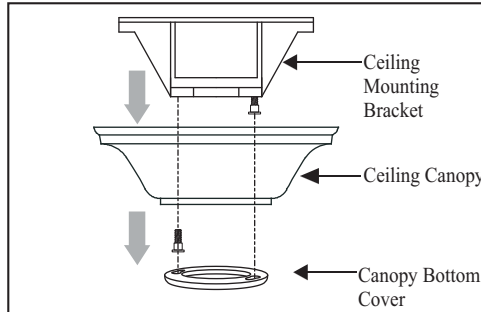

Figure 4
1. Remove the decorative canopy bottom cover from the canopy by turning the cover counter clockwise. (Figure 4)
2. Remove the mounting bracket from the canopy by removing the 1 of 2 screws from the bottom of the mounting bracket and loosening the other one a half turn from the screw head. Next, turn the canopy counter clockwise to removing the canopy cover form the canopy. (Figure 4)